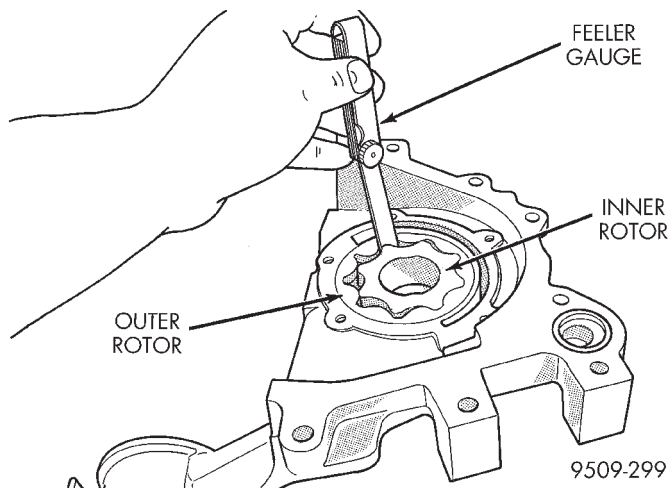

Fig. 104 Measuring Clearance Between Rotors
(6) Install inner rotor into pump housing. If clearance between inner and outer rotors (Fig. 104) is 0.203 mm (0.008 in.) or more, replace both rotors.